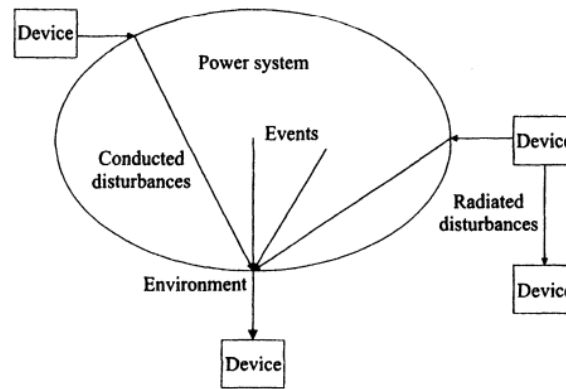

Fig 2. Overview of EMC terminology
The ability of a device, equipment, or system to work satisfactorily in its electromagnetic environment without causing unbearable electromagnetic disturbances to anything else. EMC has two components: (1) a piece of equipment must be able to operate properly in its surroundings, and (2) it must not damage the environment excessively.(Fig 2. Cited from “Understanding power quality” by Math.H.J.Bollen)